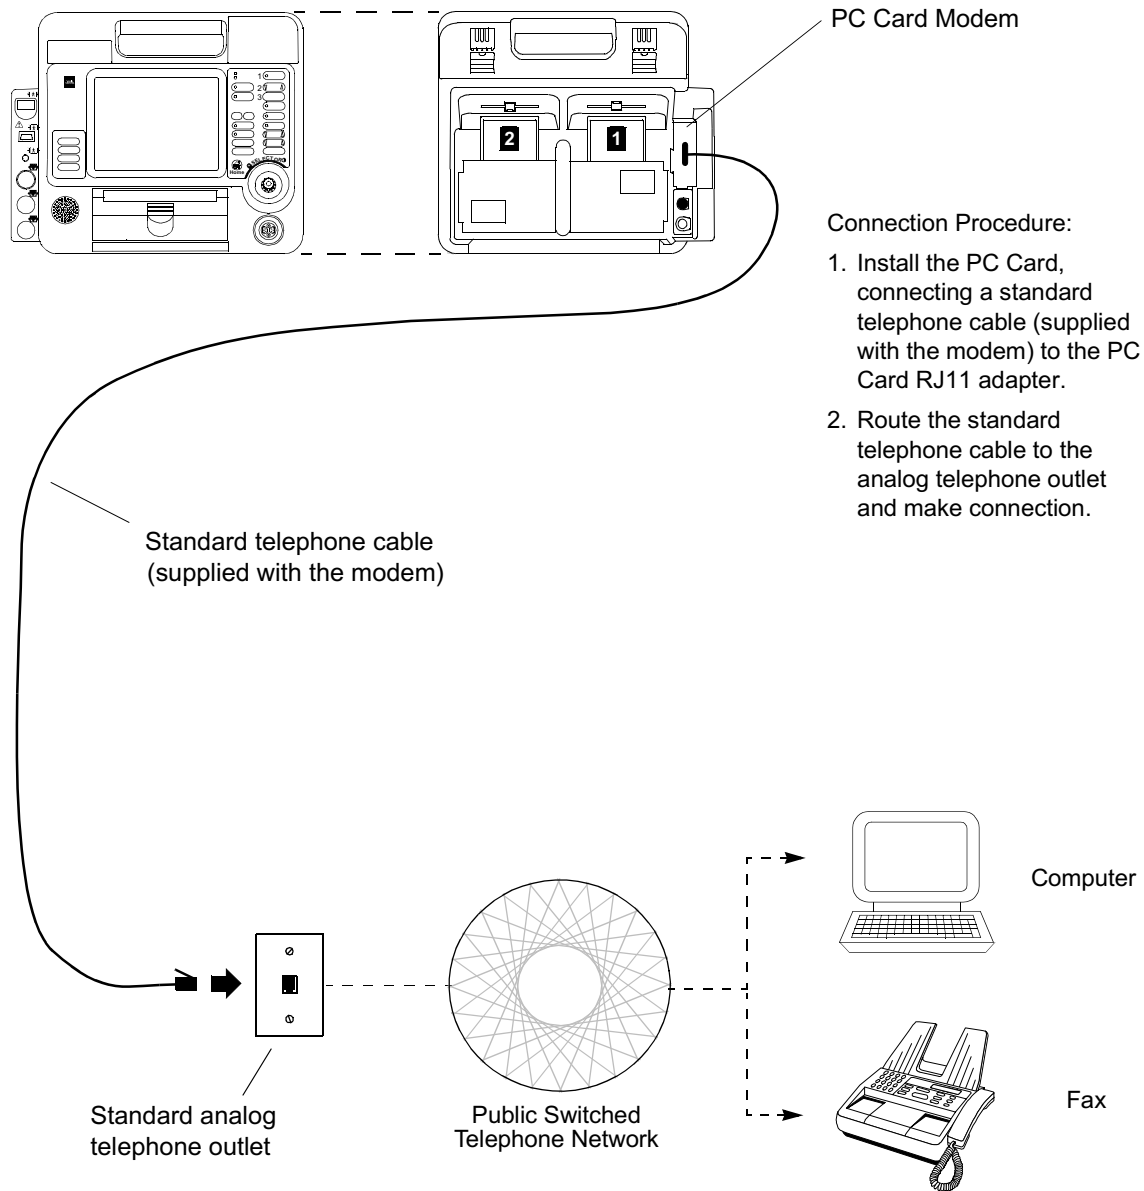

**Figure 6-4** Equipment Connections for Internal Modem – Analog Landline
- **Internal** Transmit reports by analog landline telephone using an internal PC Card modem. Requires the following for interconnection (see Figure 6-4):
Figure 6-4 shows you the equipment connections for transmitting reports by analog landline telephone using an internal PC Card modem.